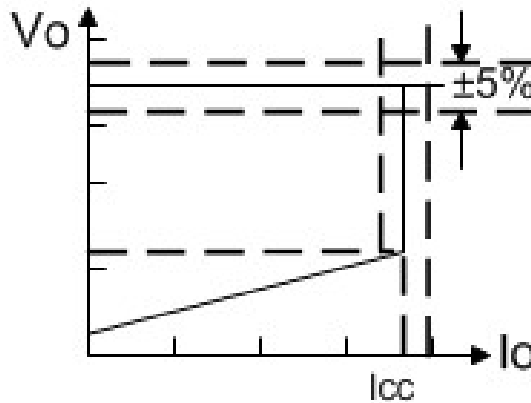

Fig.1: Typical CC/CV Curve
The ME8310 is a high performance offline PSR controller for low power AC/DC charger and adapter applications. It operates in primary-side sensing and regulation. Consequently, opto-coupler and ME431 could be eliminated. Proprietary Constant Voltage (CV) and Constant Current (CC) control is integrated as shown in the figure.1 below.
ME8310 is designed to produce good CC/CV control characteristic as shown in the Fig.1. In charger applications, a discharged battery charging starts in the CC portion of the curve until it is nearly full charged and smoothly switches to operate in CV portion of the curve. The CC portion provides output current limiting. In CV operation, the output voltage is regulated through the primary side control. In CC operation mode, ME8310 will regulate the output current constant regardless of the output voltage drop.